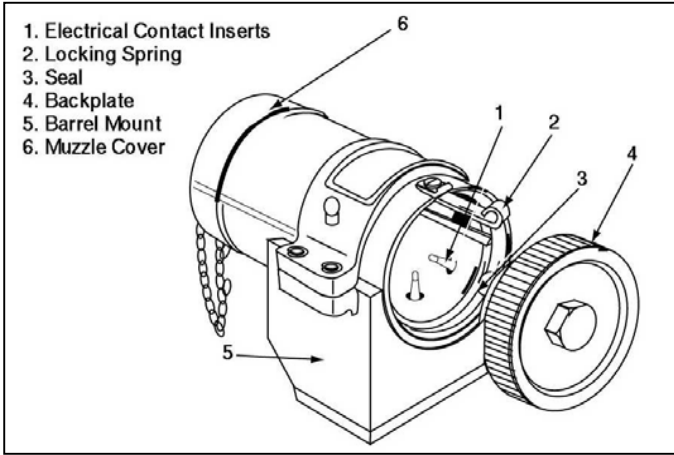

Figure 4-13-1: Smoke Grenade Launcher and Barrel
18. **General.** The smoke grenade launchers are tested and serviced before and after firing. Cleaning and lubrication should be carried out only with the recommended cleaning and lubricating materials. The inside of the barrels should be oiled immediately after firing, preferably when the barrel is still warm. The inside surface of the barrels sweat after firing, therefore, it is necessary to clean and oil the barrels every day for three days after firing (see Figure 4-13-1).